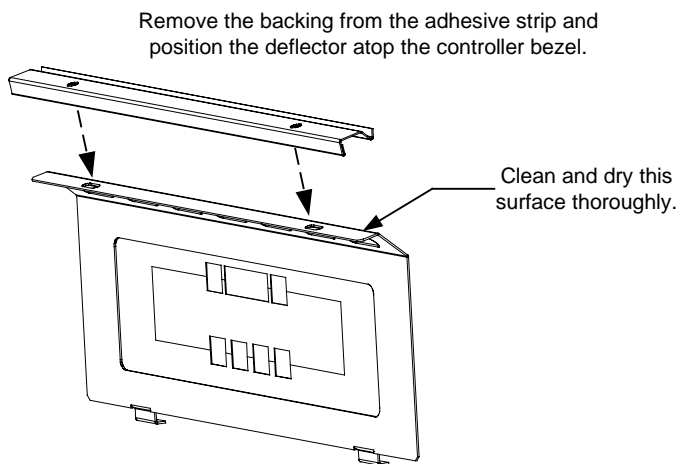
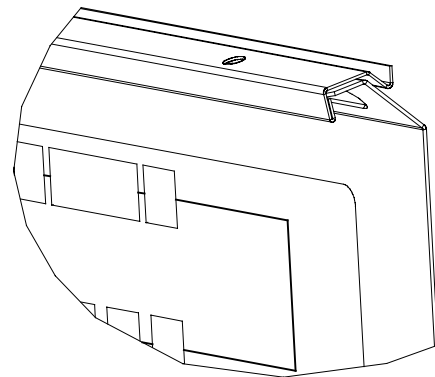

Figure 1
Figure 2
3. Remove the backing from the adhesive strip attached to the deflector and position the deflector as shown in Figure 1. Ensure that the edges of the deflector are aligned with the edges of the bezel and that the inside front face of the deflector is in contact with the leading edge of the bezel (Figure 2). Swing the control panel up to its closed position to verify that there is no interference between the deflector and the control panel mount. It may be necessary to rock the topcap assembly upward slightly to achieve proper clearance. If so, loosen the screw at each end of the topcap and lift upward until the control panel will close, then retighten the screws.